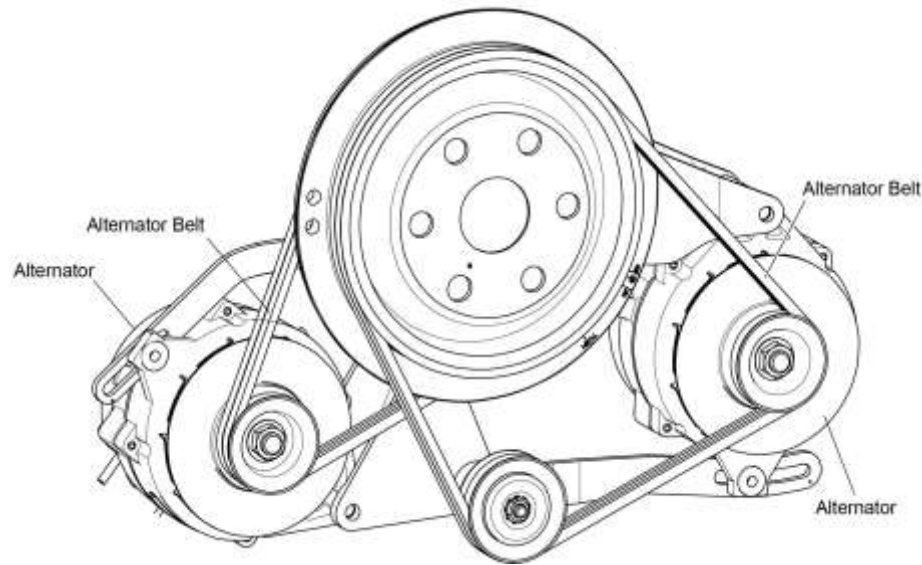

Figure 48
- (4) Remove the alternator and alternator belts (Figure 48).
- (1) Install the alternator belt in the alternator belt groove on the starter ring gear support.
- (2) Install the alternator belt in the groove on the alternator pulley (Figure 48).
- (3) Adjust the alternator belt tension. Refer to the “Alternator Belt Tension Adjustment” procedure for the respective alternator in this chapter.
- (4) Shim the alternator(s) as required to align the belt to the starter ring gear drive pulley.
- (5) Torque the bolts that attach the right alternator adjusting link to the right alternator and to the crankcase to 17 ft.-lb. (23 Nm).